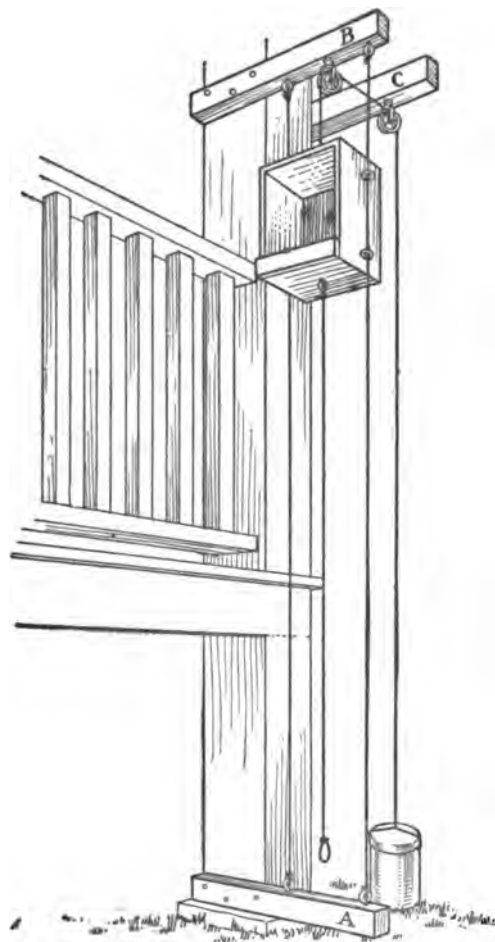

FIG. 104. — An Outdoor Elevator.
**The Outdoor Elevator** shown in Fig. 104 to run from the ground up to that porch. If you live in an upper story of an apartment building, your elevator can be made to run to a greater height, which, of course, will make more fun.
will come just above the porch railing, as shown in Fig. 104. Tie